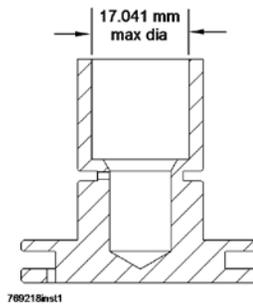

Figure 7-3 Balancing Piston
**Balancing Piston (Item 41) (Fig. 11-3) (page 62)** – maximum allowable inside entry diameter is 17.041 mm (see Figure 7-3). If greater than 17.041 mm, then the component must be replaced. Use 17mm Bore Gage (Figure 11-15) to measure diameter.